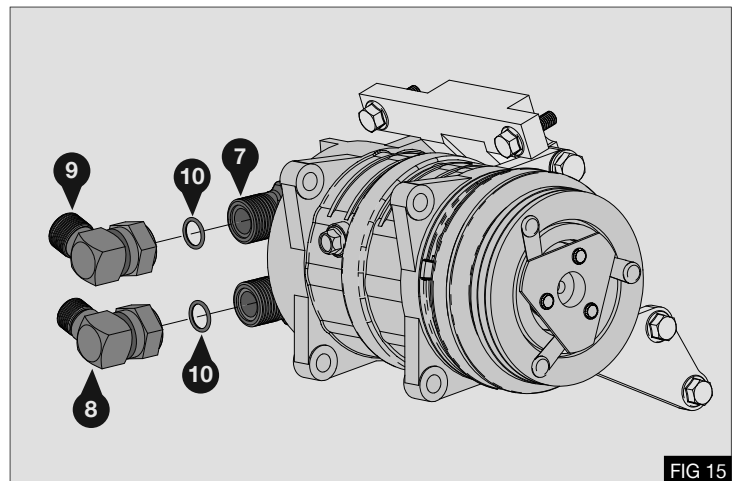

FIG 15
- Fit the supplied O-rings **10** to the 90 degree adaptors **9** and **8** and then install adaptors to the compressor manifold **7** - Fig 15